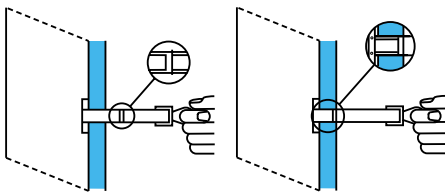

Fig. 5
- 9 While holding the plastic pull ring, slide the plastic retaining sleeve towards the wall until it fits into the hole in the wall. This will hold the toggle bolt in the wall while the Wall Bracket is mounted (refer to Figure 5).